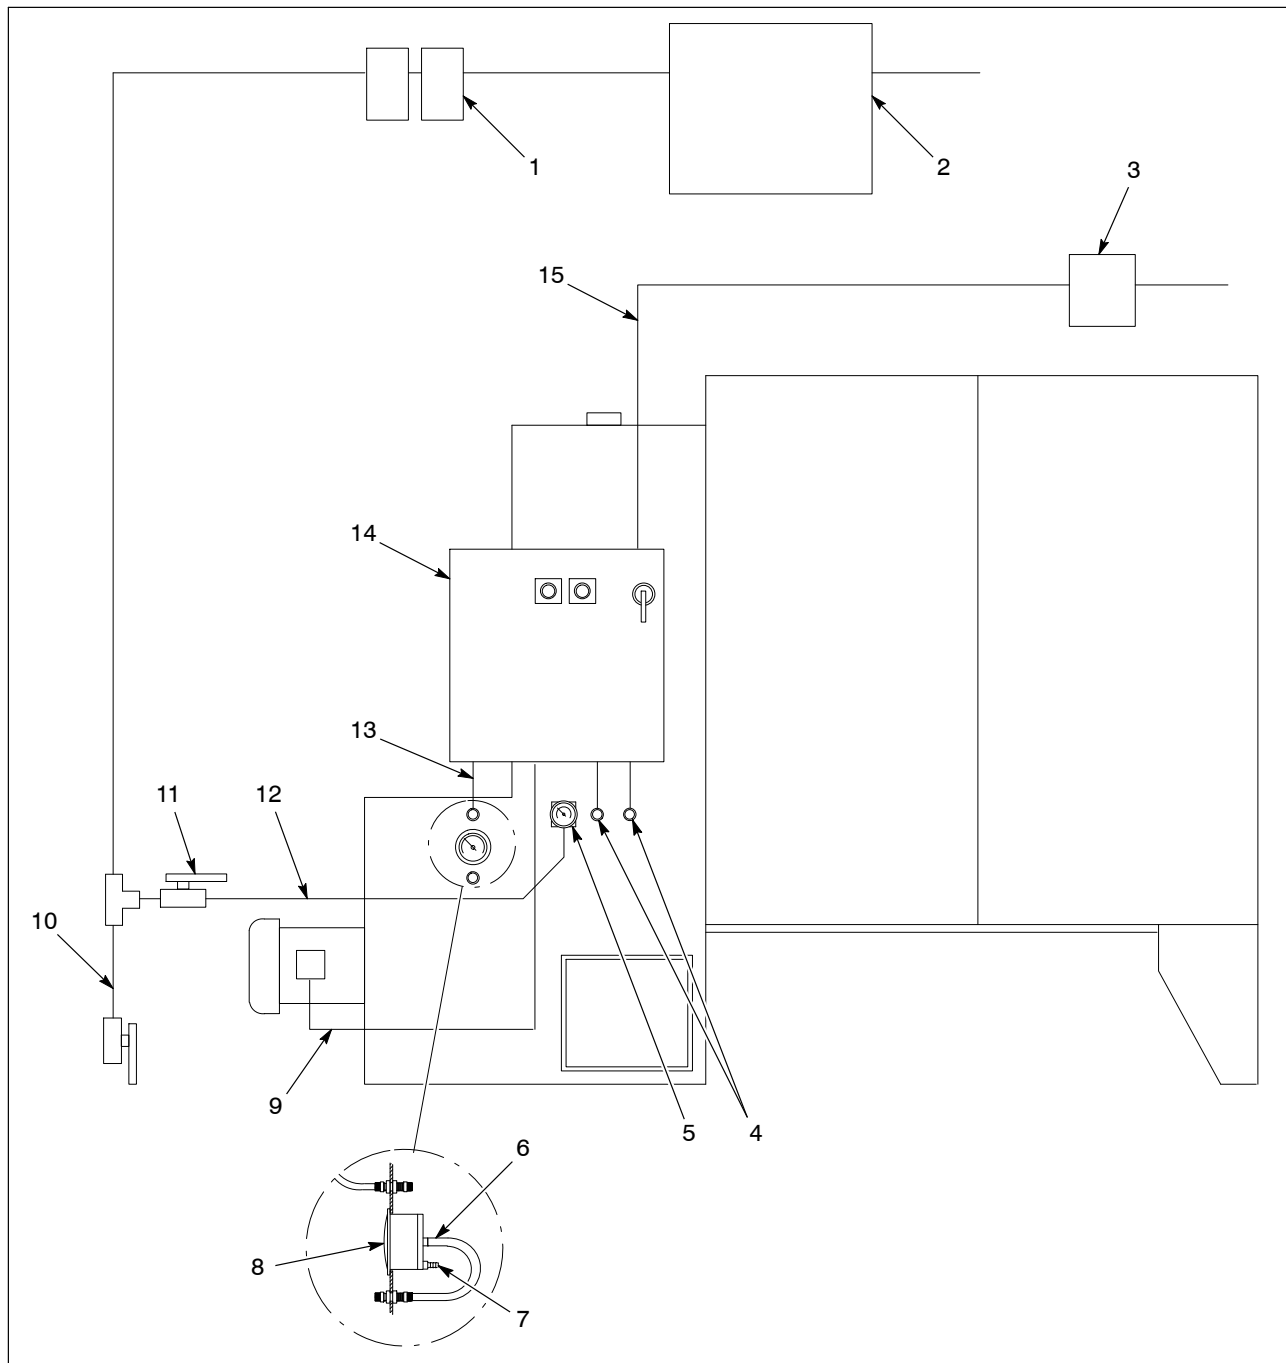

Figure 3-5 Electrical and Pneumatic Connections
1. See Figure 3-5. Install a fused service disconnect and lockout switch (3) where the service line to the Econo-Coat Series II system connects to the plant electrical system.
2. Route rigid or flexible armored conduit and wiring from the disconnect to a knockout in the top right side of the system electrical panel (14).
3. Connect the service line wiring (15) to the L1, L2, L3, and ground connections at the top of the panel disconnect switch.
6. Check the conduit and wiring from the fan motor (9) to the system electrical panel.
1. See Figure 3-5. Install a manual shutoff valve (11) in the system air supply line.
2. Connect  $\frac{3}{4}$ -in. air tubing (12) from the shutoff valve to the system air supply regulator (5).
3. Check the pilot air tubing (4) and the pressure sensing tubing connections. The pilot air tubing connects the two solenoid valves on the underside of the system electrical panel to the pulse valves. The pressure sensing tubing (13) connects the differential pressure switch in the system electrical panel to the fitting above the differential pressure gauge (8).